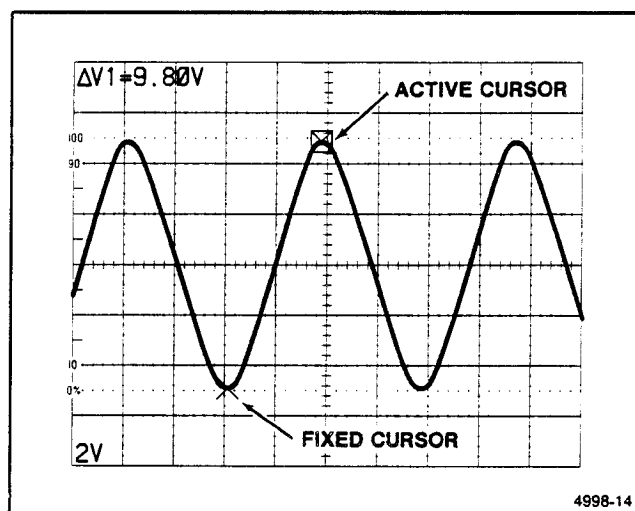

Figure 6-12. Ac peak-to-peak voltage, cursor method.
7. Push the SELECT C1/C2 button to select the other cursor, and use the CURSORS control to move the cursor to the opposite peak of the waveform (see Figure 6-12).